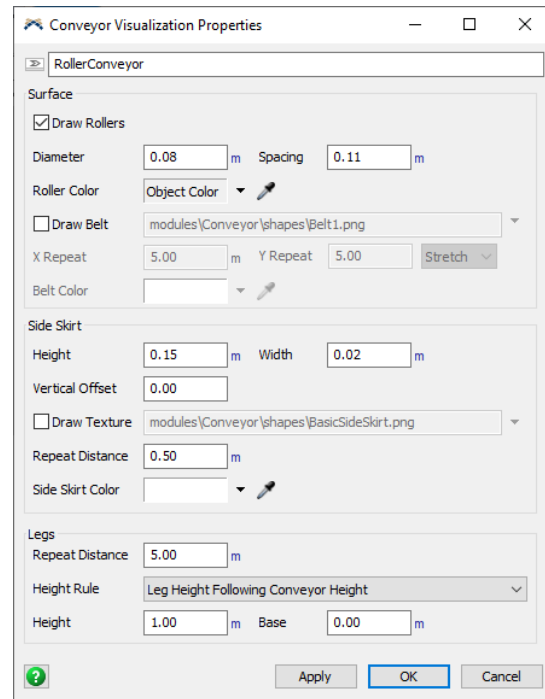

Fig. 2 RollerConveyor Settings
5. **Visualisation** – changes the look of the conveyor: **RollerConveyor** – roller conveyor, **BeltConveyor** – belt conveyor, **MassFlowConveyor** – belt conveyor without mounted rollers. After selecting  the conveyor type field on the right, its detailed parameters appear (Fig. 2). Pay attention to the Legs section, where you set the rules for visualising conveyor supports. The *Leg Base Relative to Model* option is most commonly used, causing the conveyor to snap to the model plane.